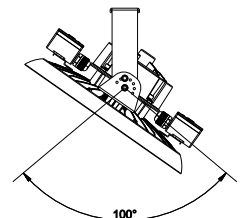

Figure 7
4. After installation, connect the wire of the fixture to the mains according to local wiring rules, ensure the connection is stable and make good protection on the connection. By adjusting the brackets screws, users can adjust 50°C to the left or right vertically. (Figure 7)